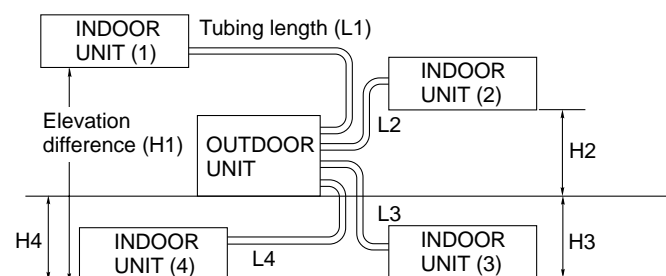

Fig. 3a
- install the unit within the maximum elevation difference (H1, H2, H3, H4) above or below the outdoor unit and within a total tubing length (L1+L2, L1+L2+L3, L1+L2+L3+L4) from the outdoor unit as detailed in Table 3 and Fig. 3a.